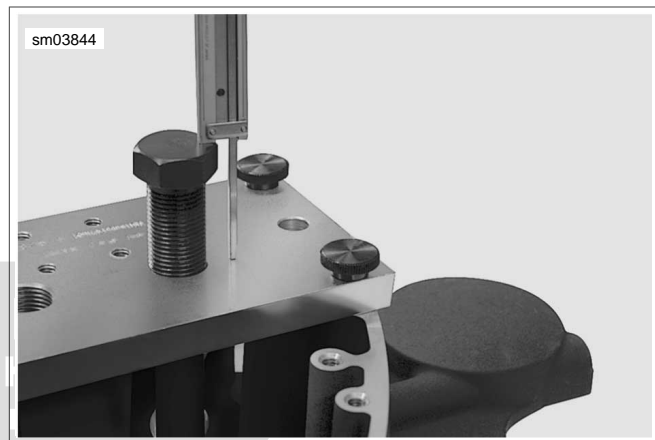

Figure 3-121. Measure from Top of Forcing Screw to Support Plate
10. See Figure 3-121. Using a dial caliper, measure from head (top) of installer forcing screw to support plate. Record this measurement.